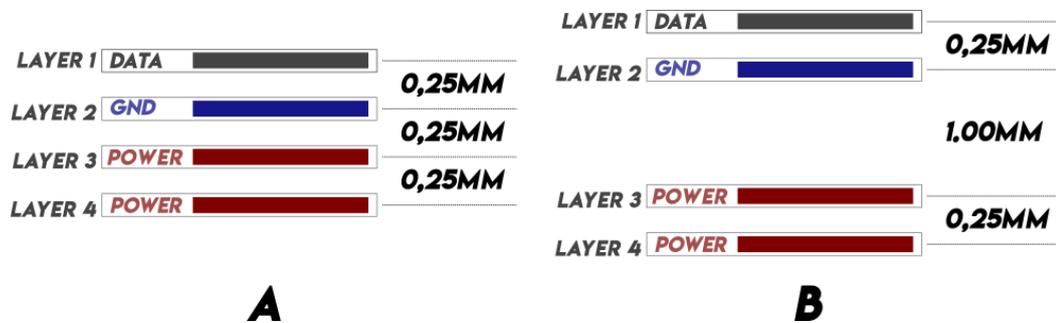

Figure 6: (A) Illustration of the distance between layers, (B) Illustration of increased distance between layers.
- 6- If high-amplitude current switching circuit design and low-current circuit design need to be located in the same region for some reason, the distance between the high-amplitude switching layer and the other data lines layer should be increased. (Figure 6)